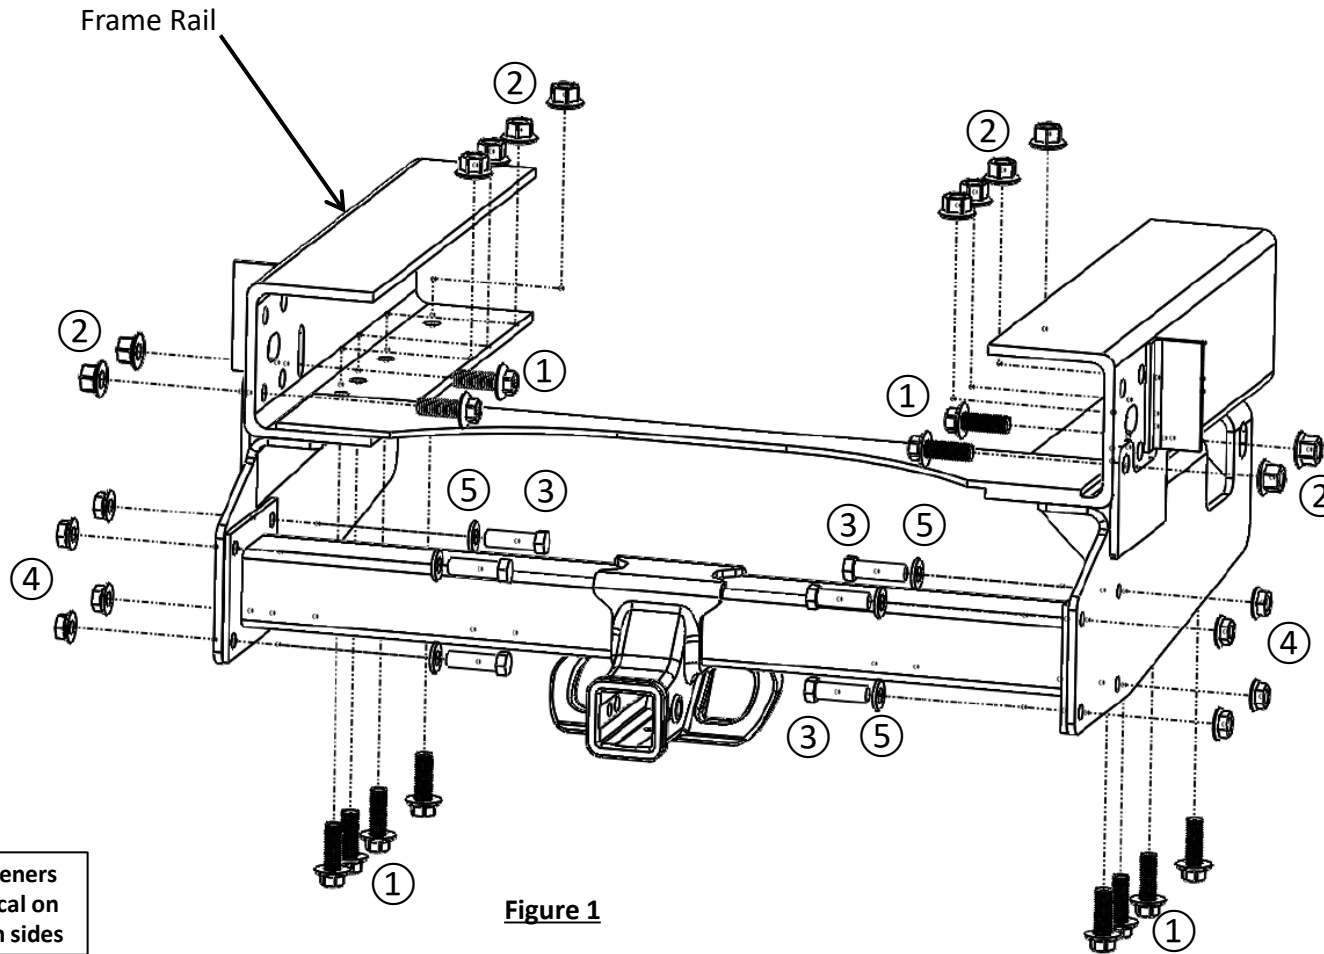

Figure 1
- 1. Install side brackets:** Using a clamp, secure and align the side brackets with attachment holes on frame rails, see Figure 1. Using 24mm socket, loosely install (6) M16 bolts ① and (6) M16 flange nuts ② to hold side bracket, both sides.
- 2. Install center section:** Raise the center section into position and loosely secure with side bracket using (4) 9/16" bolts ③, (4) flat washers ⑤, and (4) locknuts ④, both sides.
1. Install side brackets: Using a clamp, secure and align the side brackets with attachment holes on frame rails, see Figure 1. Using 24mm socket, loosely install (6) M16 bolts ① and (6) M16 flange nuts ② to hold side bracket, both sides.
2. Install center section: Raise the center section into position and loosely secure with side bracket using (4) 9/16" bolts ③, (4) flat washers ⑤, and (4) locknuts ④, both sides.